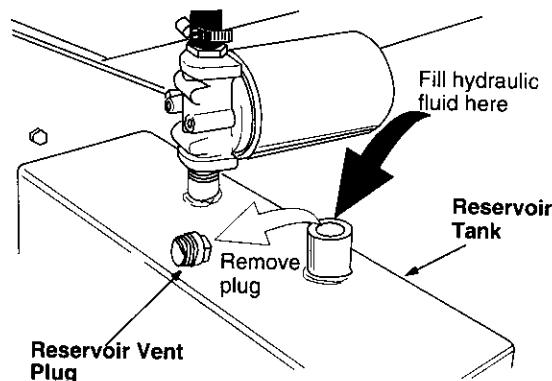

Figure 6
- Remove reservoir vent plug. See Figure 6.